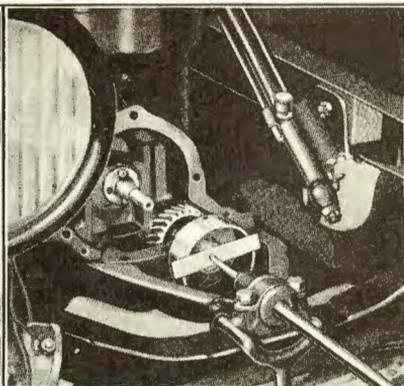

Fig. 277
- 461** Install fan drive pulley on crankshaft. This is done by placing a flat piece of stock across face of pulley and driving pulley onto crankshaft with a drift which is inserted through starting crank sleeve (See Fig. 277). Pulley is then locked in position on shaft by inserting starting pin, with the cotter pin hole end up (See Fig. 278) through the larger of the two holes in fan drive pulley and driving it through pulley and crankshaft. The pin is then locked in position with a cotter key.